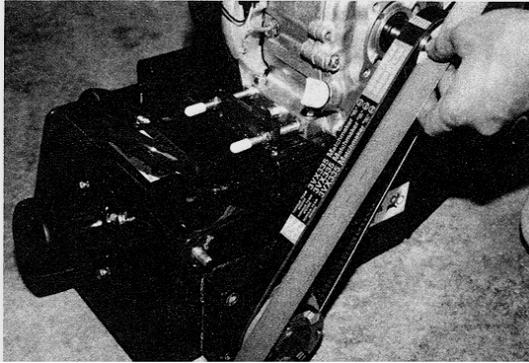

FIGURE 33
5) Belt alignment is checked with the straightedge. Place the straightedge squarely against the driveshaft pulley. Properly aligned pulleys should also place the straightedge squarely against the engine pulley. FIGURE 33. Remove the straightedge and rotate the engine pulley 120 degrees. Recheck alignment with the straightedge. Repeat the process until the engine pulley is rotated a full 360 degrees. Maximum allowable misalignment is  $\pm 1/32$  inch. If pulley alignment is not within specifications, refer to INSTALLING A REPLACEMENT V-BELT for specific information.